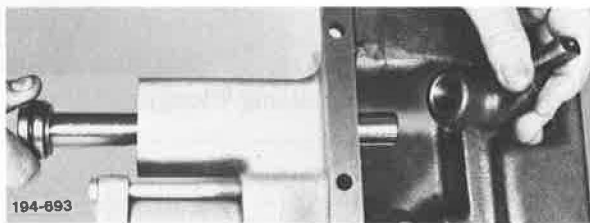

Figure 5-862. Installing Shift Rail and Shifter
19. Slide reverse shift rail into shift cover and, at the same time, install reverse shifter. See **Figure 5-862**.